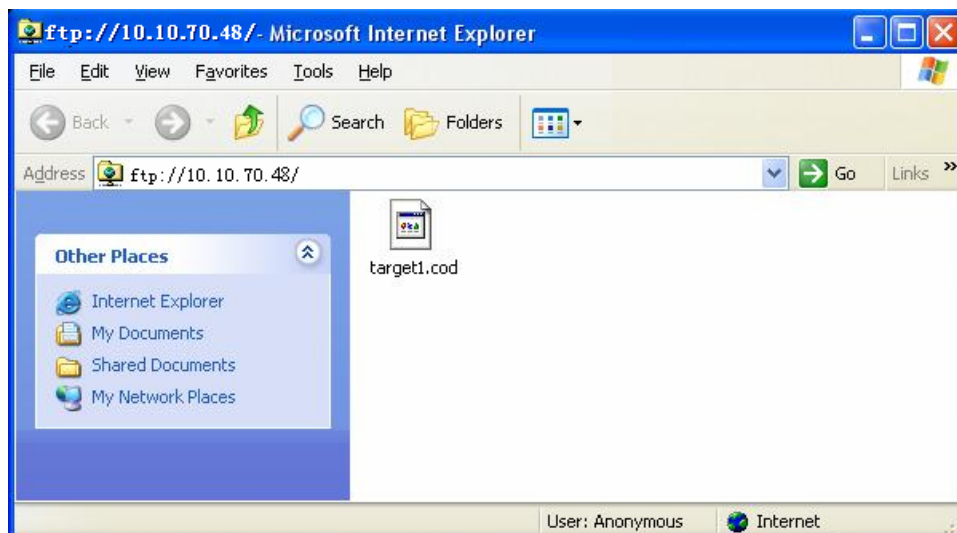

Figure 8: Copy “target1.cod” File
- Open the IE browser and type <ftp://10.10.70.48> in the address bar and press **Enter**. If the network configuration is correct, you can open the FTP folder without any error as in the figure 8.